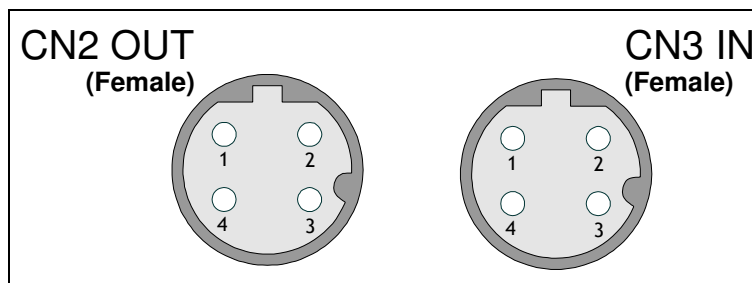

Figure 3 –CN2 and CN3 connectors (front side)
- Two connectors for IN and OUT EtherCAT (CN2, CN3 Figure 3) to allow a daisy-chain connection.
Two standard Ethernet M12 modular connectors (IN, OUT) are provided for the EtherCAT communication. The same pin disposition (same signal) is assigned for both connectors. Figure 3 shows connector M12 connectors used for connection between the drive and the control system.